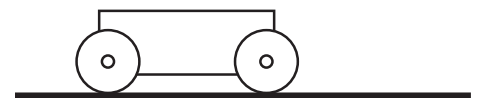

Figure 1
6. **Explain:** Move one car to the front or center of the room, or use one group's materials that everyone can see. On the board, show students a quick sketch of the car/table system (figure 1).